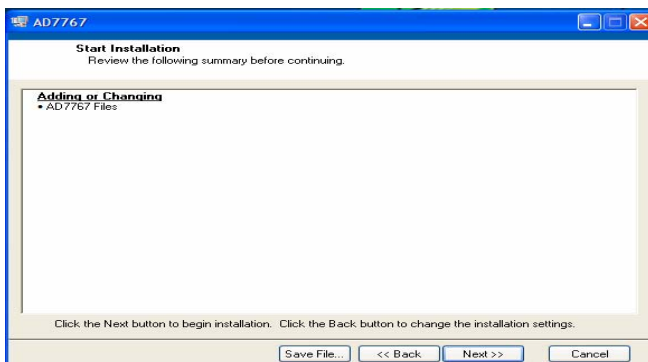

Figure 5. AD7767/-1/-2 Install actions
- 4) To start the installation, click the “Next” button as shown in Figure 5. This window details the actions of the installation.